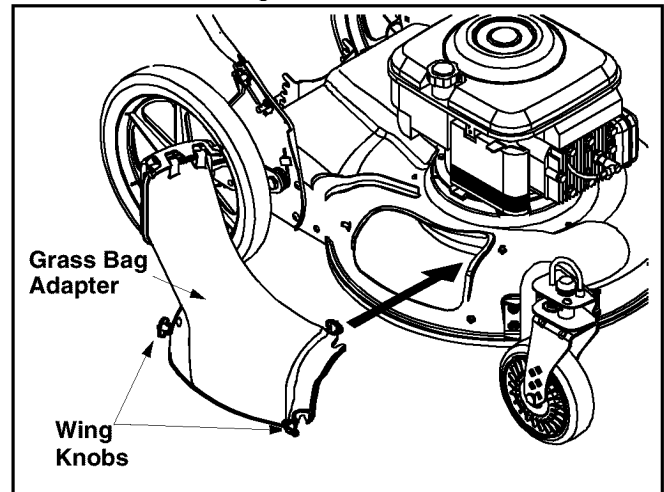

Figure 11
- Remove three wing knobs holding the mulching baffle or side discharge chute in place and remove from unit. See Figure 11.